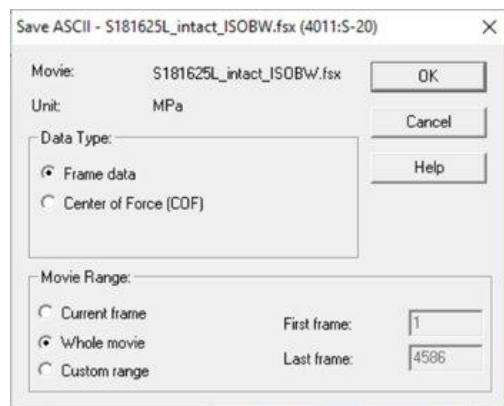

Figure 2: Dialogue Box to save .FSX file as a .CSV file
- 1) Click 'File' -> 'Save ASCII...'. This will open a dialogue box (Figure 2).